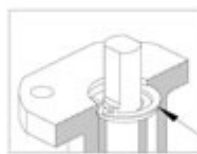

Fig 8.1
8.1.4 Remove the circlip (8) (fig 8.1) and pull the stem out with stem retainer ring (7).